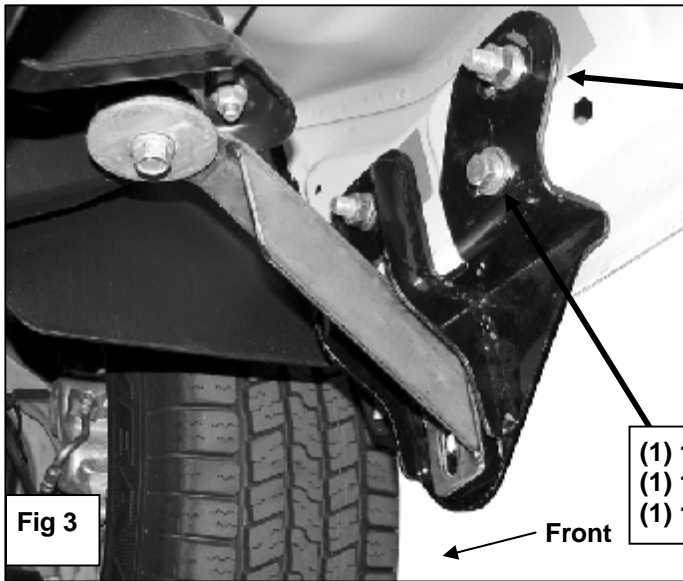

Fig 3
- Select the passenger side front Mounting Bracket. Position the Mounting Bracket onto the installed Bolt Plates. Secure it with (2) 12mm Flat Washers, (2) 12mm Lock Washers and (2) 12mm Hex Nuts, **(Figure 3)**. Do not tighten at this time. Rotate the Bolt and Nut plate until the Nut end lines up with the remaining hole in the Mounting Bracket and body. Thread (1) 10mm x 35mm Hex Bolt, (1) 10mm Flat Washer and (1) 10mm Lock Washer into the threaded nut. Snug but do not tighten hardware at this time.
- Remove the passenger side front factory body bolt. Select the passenger side Front Support Bracket. Insert the factory body bolt through the Support Bracket and up into its original position, **(Figure 3)**. Line the other end of the Support Bracket up with the oval hole in the Front Mounting Bracket. Snug but do not tighten hardware.